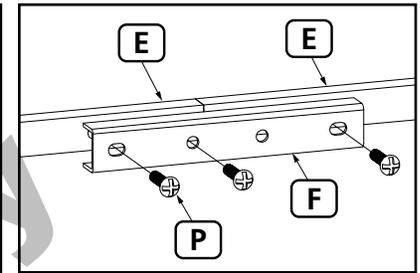

Fig. 3
Insert three M6x14mm Bolts (P) through eyelets of Crossbeam Connector (F), and into the bolt-threading inserts found at the opposite ends of Crossbeams (E), connecting these parts to one another. Please note that one eyelet in the center of Crossbeam Connector (F) will remain unused at this stage of assembly, see Fig. 3. Follow these steps to connect all Crossbeams (E) to one another forming a square frame as illustrated above.